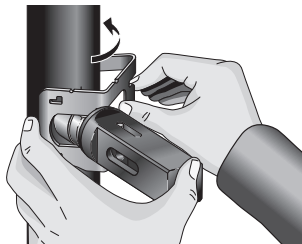
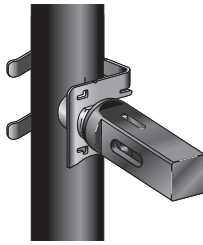

Figure 11 – Rotate Fitting Guide To Hold Fitting In Place
Figure 12 – Fitting Positioning Guide Holding Fitting To Pipe
7. Rotate the fitting positioning guide into place to hold the fitting to the pipe (see Figure 11). Confirm that the guide, fitting and expander are secure and will not fall off of the pipe (Figure 12).